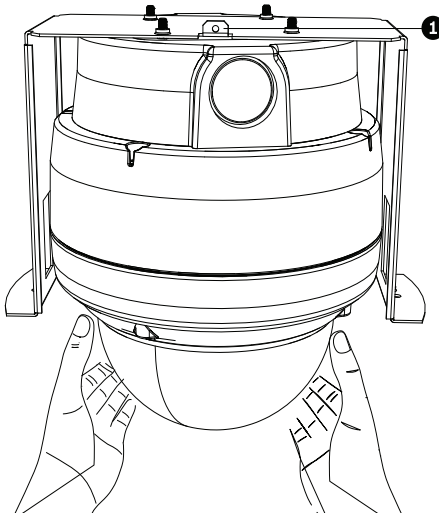

Figure 6.20 Attach Dome to Mounting Plate
The recessed mounting bracket is provided with an additional safety tether point (item 1, *Figure 6.20*). To prevent injury, attach a safety wire from a secure anchor point above the ceiling to this tether point.
11. Align trim ring so the four alignment posts (item 1, below) align with the recesses in the camera housing (item 2) and so the two safety screws align with the off center holes (item 3) on the locking clamps.